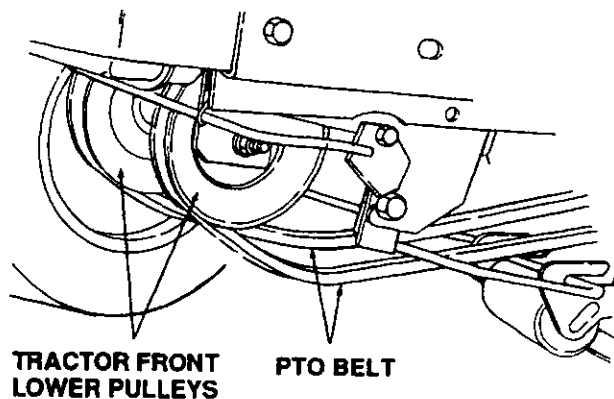

Figure 36
13. Pass PTO belt downward (inside tractor frame) until the belt is below the two tractor front lower pulleys. (Refer to Figure 36.)